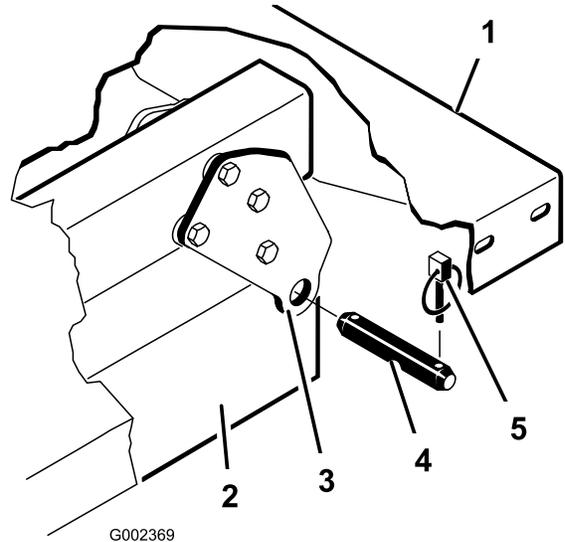

Figure 26
3. Remove the clevis pins securing the cylinder rod ends to the bed mounting plates by pushing the pins towards the inside (Figure 26).
4. Remove the lynch pins and clevis pins securing the pivot brackets to the frame channels (Figure 26).
Note: Ensure that the rear pivot plates are bolted to the bed frame/channel so that lower end angles to the rear (Figure 26).
2. Carefully set the bed onto the vehicle frame aligning the rear bed pivot plate holes with the holes in the rear frame channel and install 2 clevis pins and lynch pins (Figure 26).
3. With the bed lowered, secure each cylinder rod end, to the appropriate slots in the bed mounting plates with a clevis pin and lynch pin. Insert the clevis pin from outside of the bed with the lynch pin toward the outside (Figure 26). The rear slots are for a full bed installation and front slots are for a 2/3 bed installation.